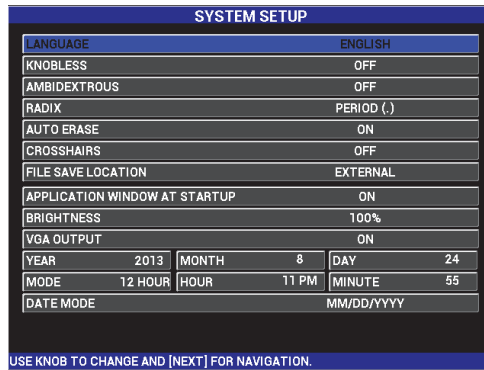

Figure 4-8 The SYSTEM SETUP screen
1. Press the ADV SETUP menu key () twice, and then press the B key to access the **SYSTEM SETUP** screen (see Figure 4-8 on page 86).